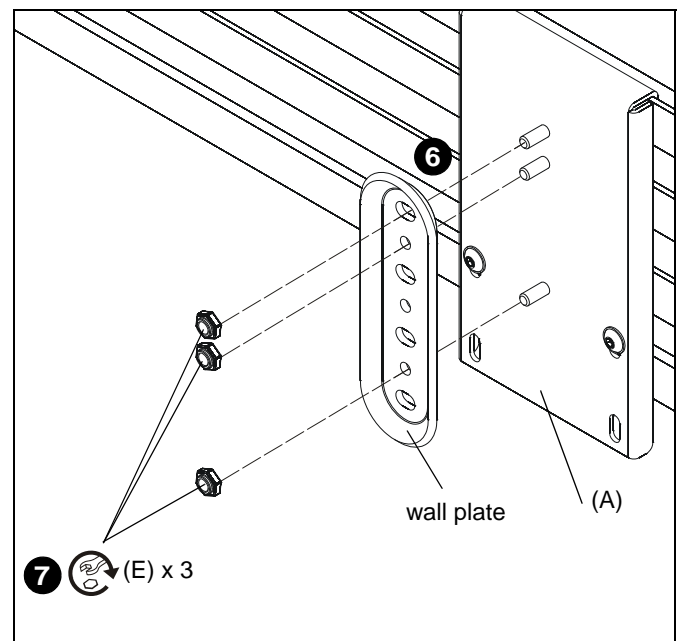

Figure 3
6. Place wall plate (not included) over three fixed screws on main plate (A). (See Figure 3)
7. Secure wall plate to main plate (A) by installing three #10-24 Nylock nuts (E) onto three fixed screws. (See Figure 3)